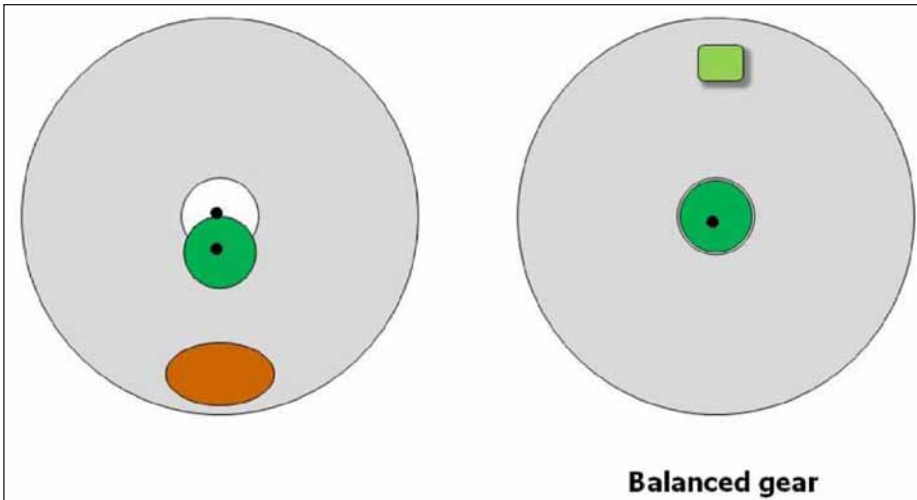

Figure 4 Welding on a weight to correct imbalance.
**Balancing = adalignment of geometric axis and mass axis.** Gears may be balanced by adding weight 180° from the heavy spot; by welding; riveting; adding epoxy putty; etc. (Fig. 4). When we balance the gear from the above example, we remove material at the angle of the heavy spot—either by drilling, milling or grind-